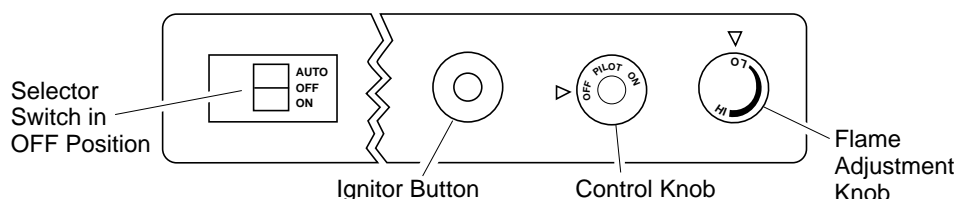

Figure 34 - Control Knob and Ignitor Button Location (Shown as Supplied, No Control Options)
5. Wait five (5) minutes to clear out any gas. Then smell for gas, including near the floor. If you smell gas, **STOP!** Follow "B" in the safety information, column 1. If you don't smell gas, go to the next step.
6. Press in and turn control knob counterclockwise  to the PILOT position. Press in control knob for five (5) seconds (see Figure 34).